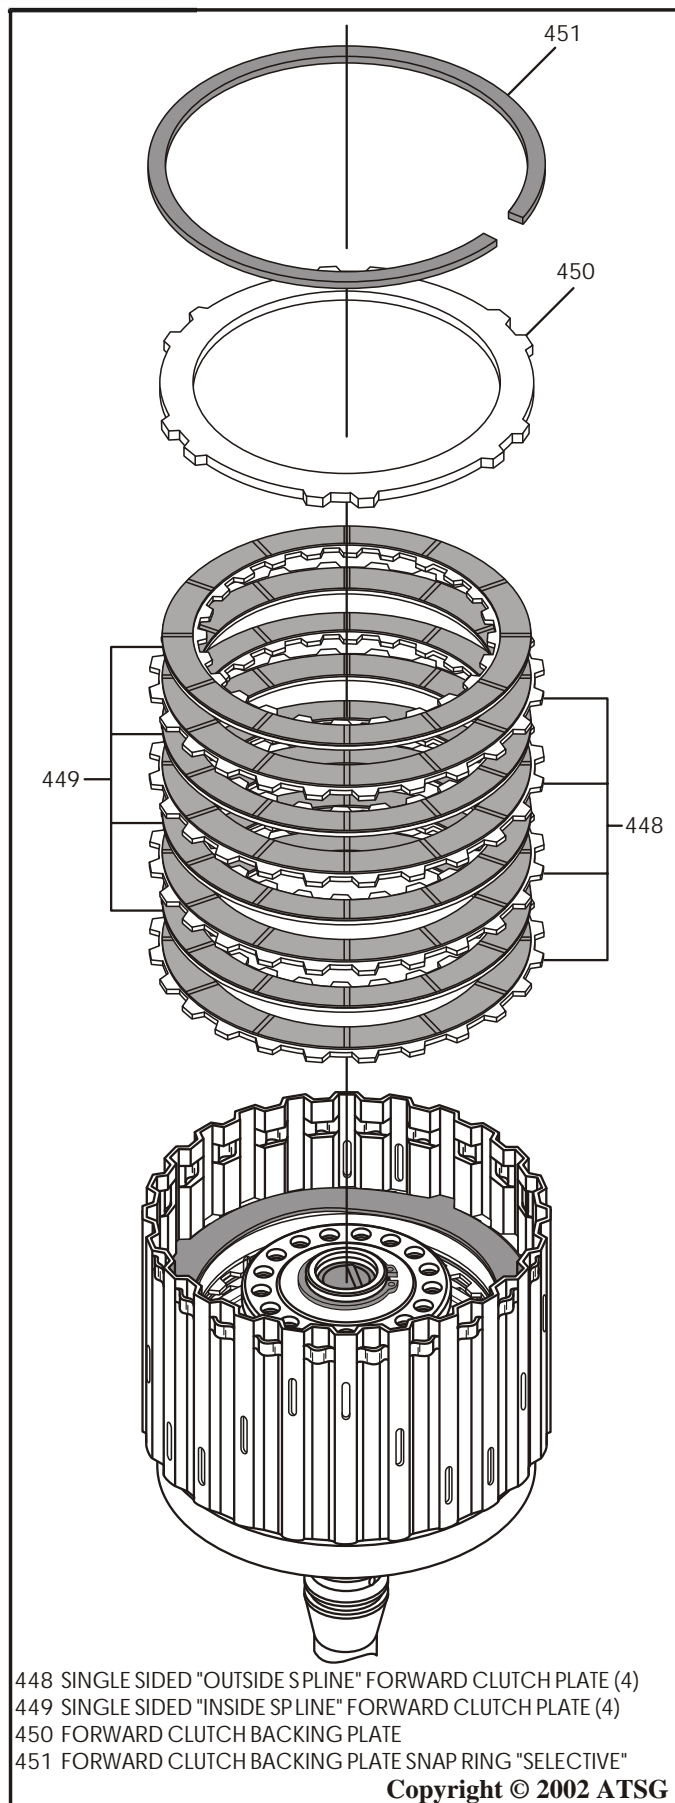

Figure 95
33. Install the forward clutch "single sided" plates beginning with an outside spline plate first and alternating with inside spline plates until you have installed 4 of each, as shown in Figure 95.
Note: Lined side must be facing up, as shown in Figure 95. Clutch plate amounts may vary by model.
34. Install forward clutch backing plate on top of the last inside spline plate (See Figure 95).
35. Install the "Selective" backing plate snap ring as shown in Figure 95, and ensure that the snap ring is fully seated against the top of the snap ring groove in forward clutch housing.